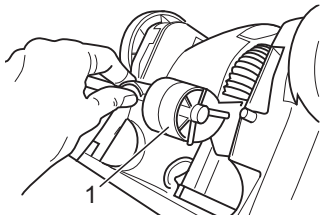

Fig. 26
4. Pull the base plate (Fig. 26/1) carefully up out of the appliance.
18. Replace the base plate (Fig. 26/1).